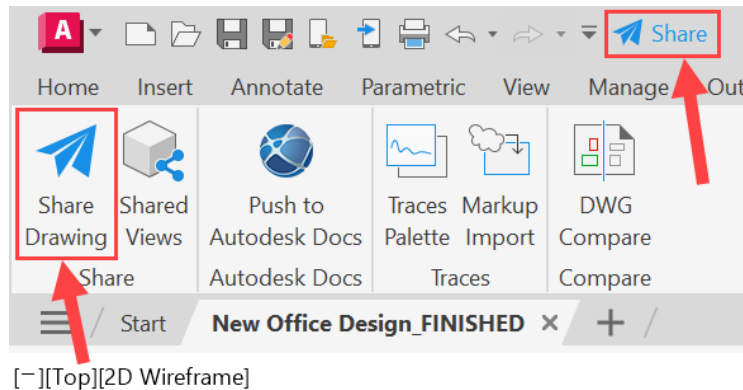
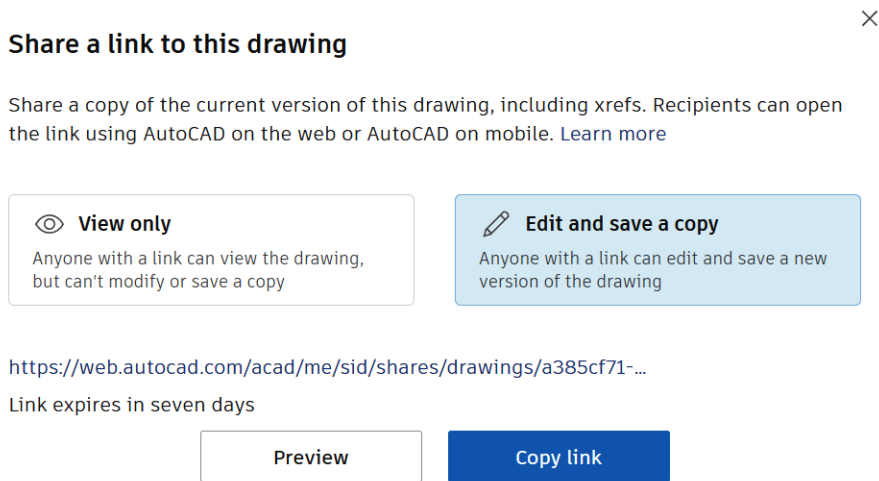

Figure 13.1: The Share Drawing tool on the Collaborate ribbon tab and QAT
Figure 13.2: The Share a link to this drawing dialog box
The **Share Drawing** tool is used to share drawings to AutoCAD Web for viewing or editing, quickly and easily in real time. You will find the **Share Drawing** (*SHARE*) tool in two locations: on the **Collaborate** tab on the ribbon in the **Share** panel, and (conveniently) on the **Quick Access toolbar** (QAT), as displayed in *Figure 13.1*.
1. You can click on either of the icons seen in *Figure 13.1* to activate the **Share Drawing** (*SHARE*) command. This will create a URL to share the DWG file in AutoCAD Web, and provide you with a dialog box, as shown in *Figure 13.2*.